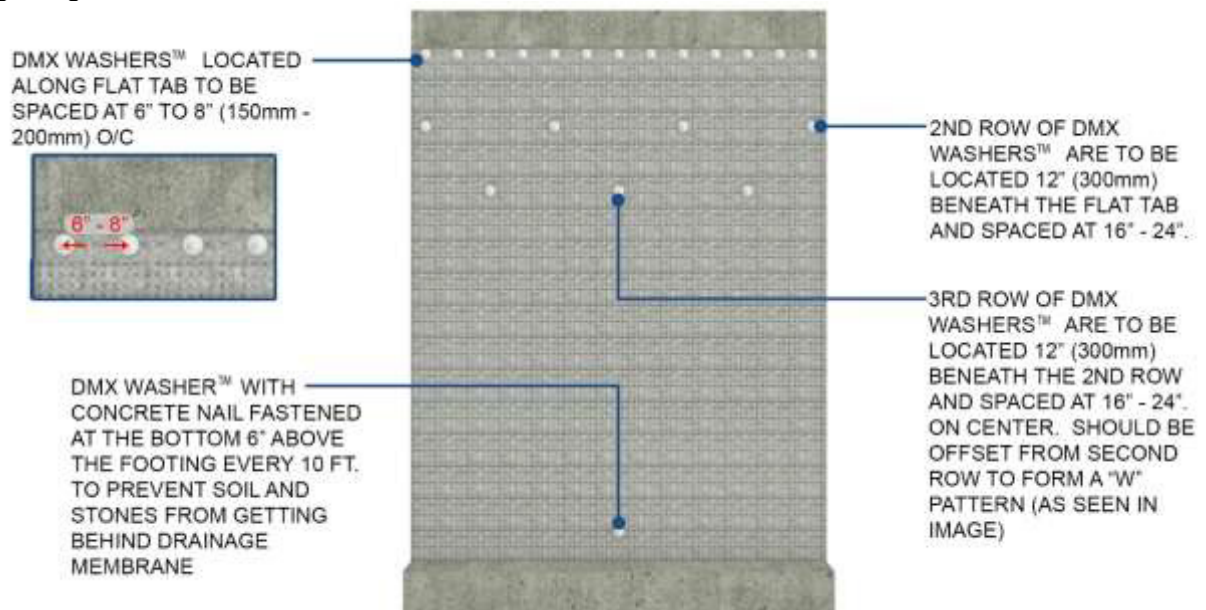

Figure 3 Washer Placement
4. Secure the membrane to the foundation wall with DMX Washers™ and concrete nails. Please note, steel washers are not recommended as they may damage the membrane. Position the DMX Washers™ in the flat tab, 6 – 8 inches (150mm – 200mm) apart, secure in place with 1 ¼" concrete nails. Install the DMX Washers™ in the dimpled section, in accordance with the diagram, below the tab with the washers spaced 12 – 14 inches (300mm – 350mm) apart. (Refer to Figure 3)